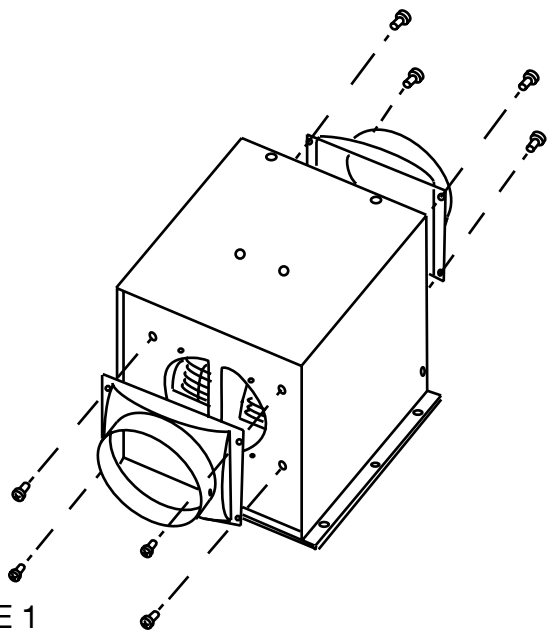

FIGURE 1
1. Attach an adequate length of 150 mm round duct to the air outlet adapter and seal with duct tape. Feed it through the previously cut hole in the ceiling. FIGURE 1.
3. The ducting must be attached to the rangehood before installing the hood into the cupboard. FIG 1.
Take motor unit out of the packaging. Attached the black attachment modules using 4 screws on each side. FIGURE 1.
To release the filter push in on the release tab, tilt the filter down and remove. FIG 1.